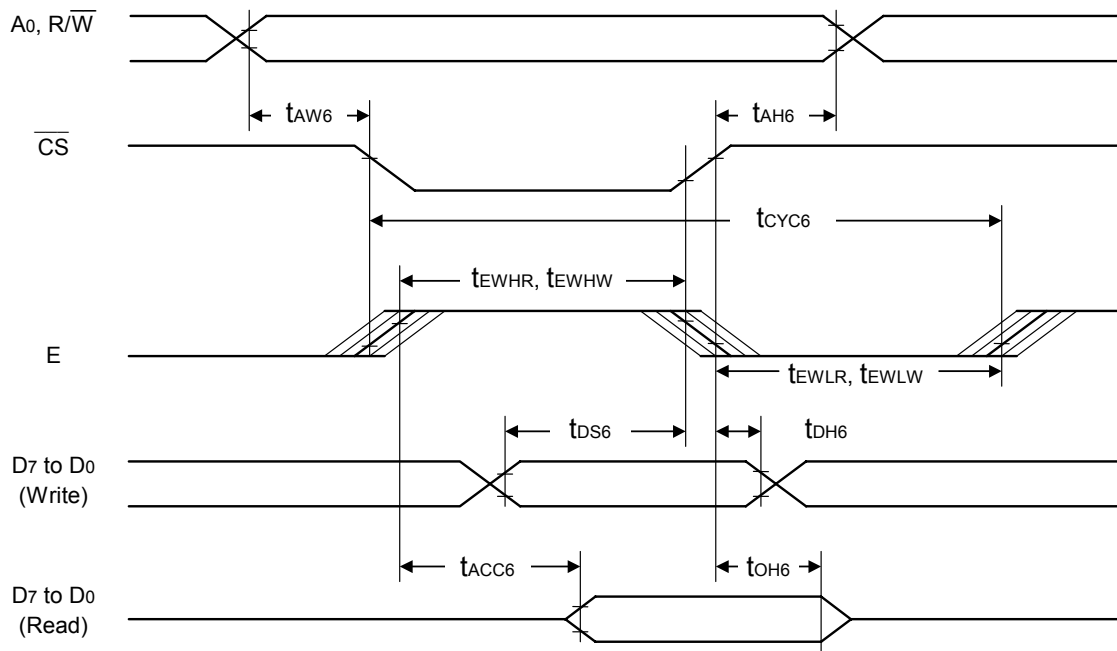

Fig.21
- *2 See Fig.21 for the operating voltage range of V_{DD} and V₀ systems. It is applicable when an external power supply is used.